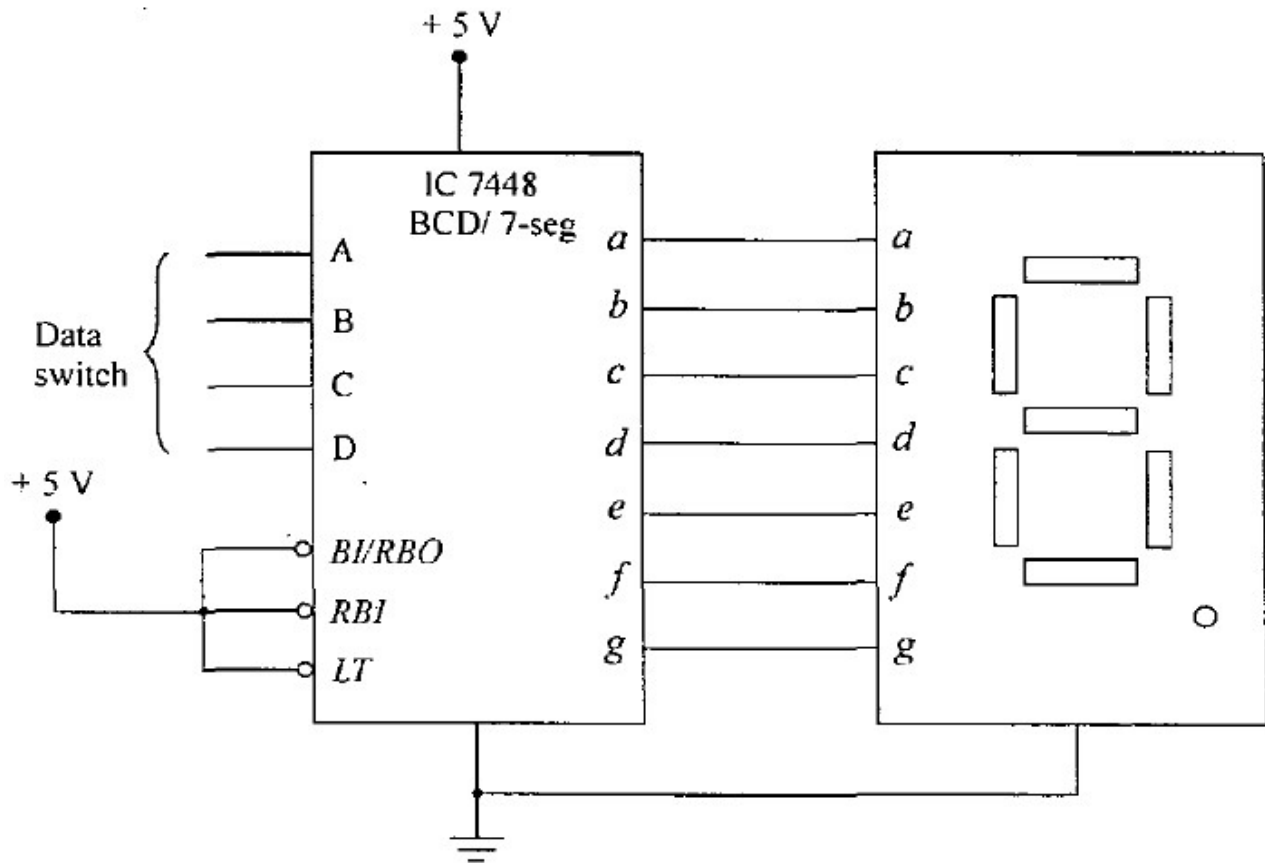

Figure 3.2
1. Built the circuit shown in Figure 3.2. Connect input A, B, C and D to data switch, then connect the outputs to 7-segment display (common-cathode).